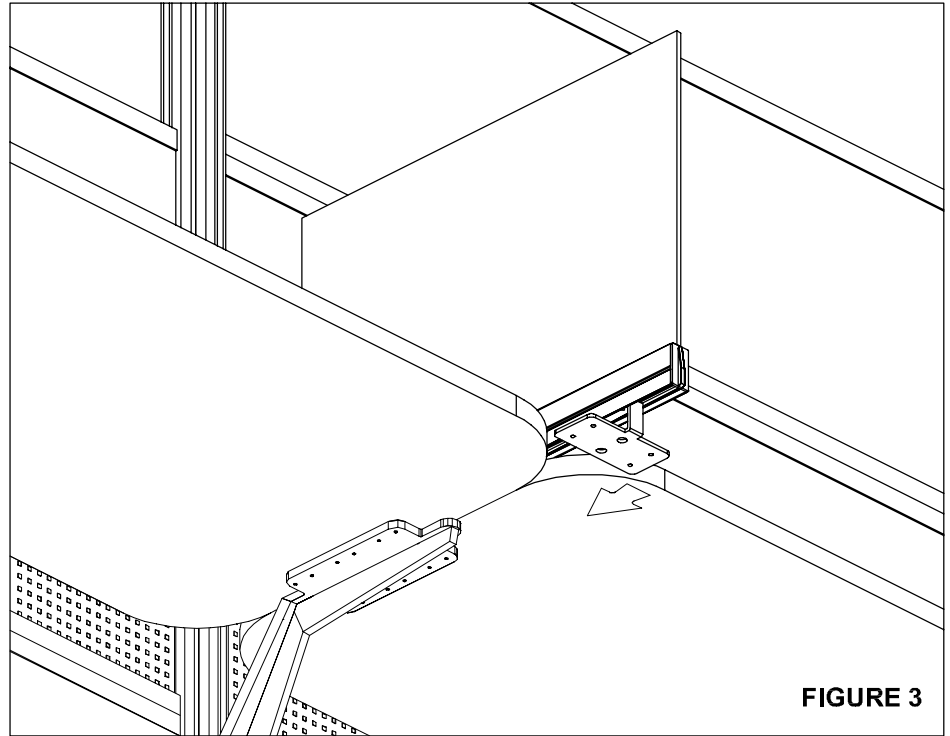

FIGURE 3
3. Fasten the divisional privacy screen to the top of the worksurface with two, #10, 1-inch screws through the bracket on the bottom, (Figure 3).
2. Mount the worksurface divisional screen between the two worksurfaces or in an off-module application, at the specified locations, (Figure 3).